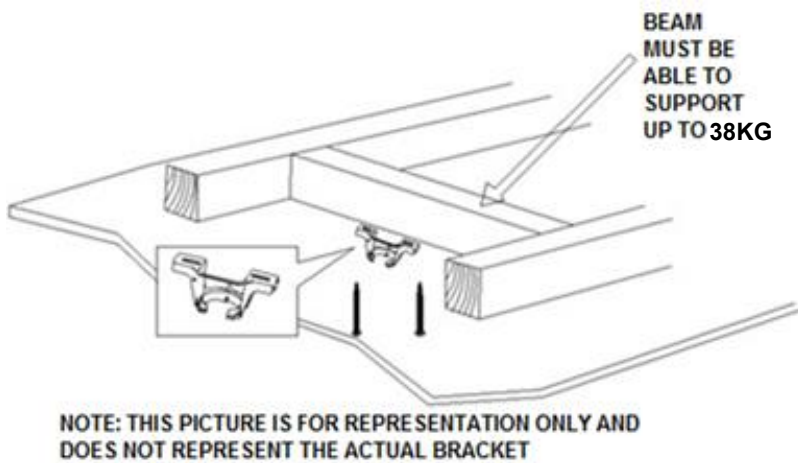

Fig. 2
- Install the hanging bracket to the ceiling joist or structure that is capable of carrying a load of at least 38kg, with two long screws provided. Ensure at least 30mm of the screw is threaded into the support. (Fig. 2)